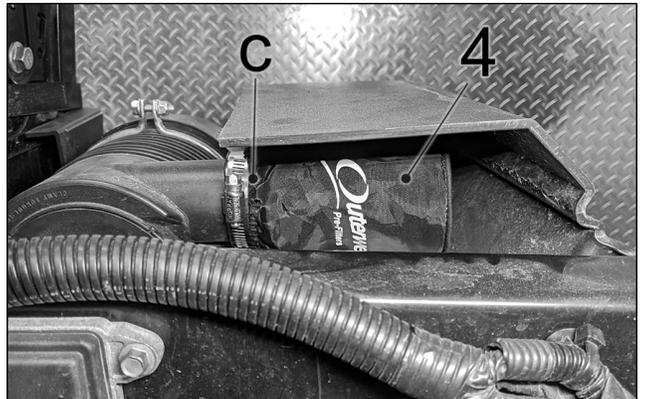

Figure 3
- 1.3 Install Pre-filter (4) over Pod filter (2). Make sure Pre-filter's elastic strap (c) is correctly positioned over the Pod filter's diameter reduction. See Figure 3.